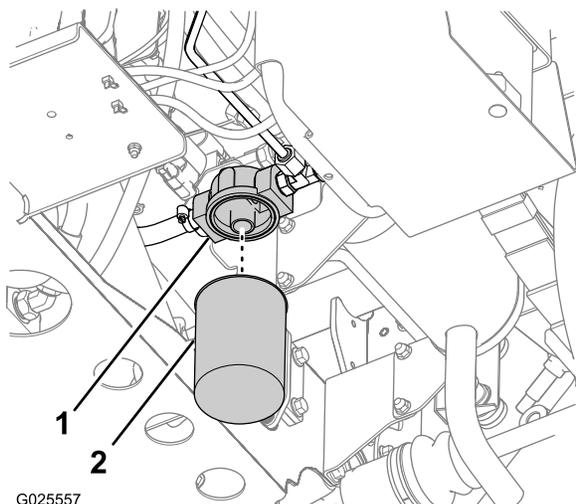

Figure 90
2. Clean the area around filter mounting area (Figure 90).
3. Place a drain pan under the filter (Figure 90).
4. Remove the filter by rotating it counterclockwise (Figure 90).
5. Clean the filter-seating surface of the filter adapter (Figure 90).
7. Thread the filter onto the filter adapter until the gasket of the filter contacts the seating surface of the adapter (Figure 90), and then tighten the filter an additional 1/2 turn (Figure 90).